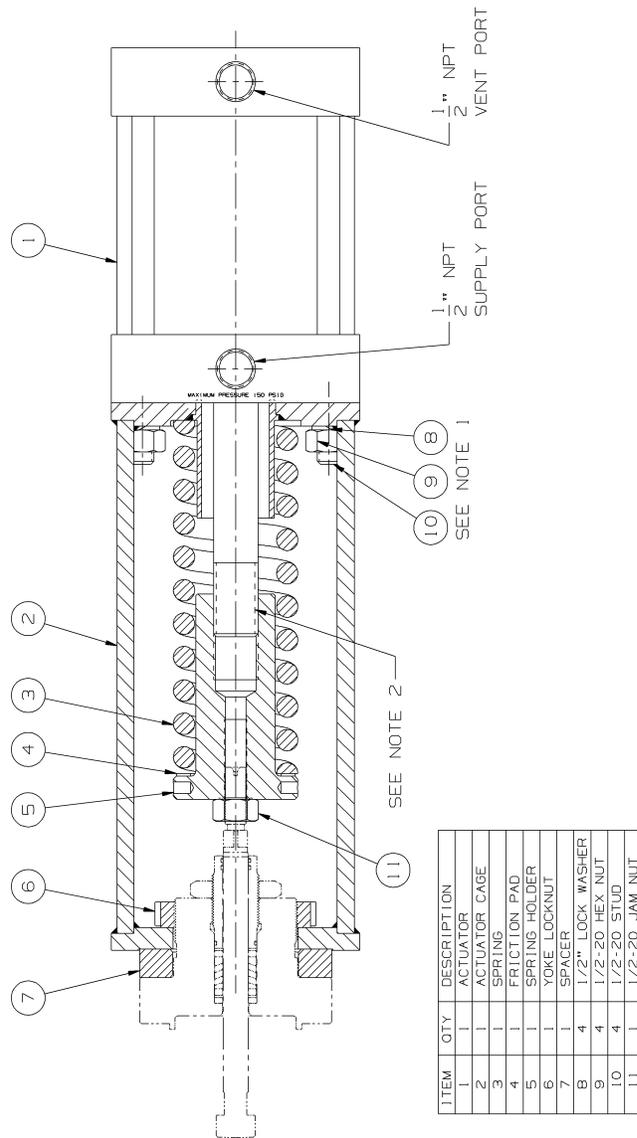

FIGURE 1 -
Refer to Figure 1 on Page 3
1. Place the newly provided actuator spacer (7), on the actuator adapter per Figure 1.
5. Install the yoke lock nut (6), over the valve stem and screw down hand tight onto the actuator adapter threads (Coat the threads with nickel never seize compound or equivalent for ease of disassembly in the future). Further tighten the yoke lock nut using a punch and hammer to secure the actuator cage (2), to the actuator adapter.
6. Screw the 1/2-20 jam nut (11), all the way down on the valve stem threads. Lift the valve stem, and fully engage the remaining threads into the spring holder (5). Be certain to maintain the pneumatic pressure within the air cylinder. Do not lock the valve stem threads with the jam nut at this time.